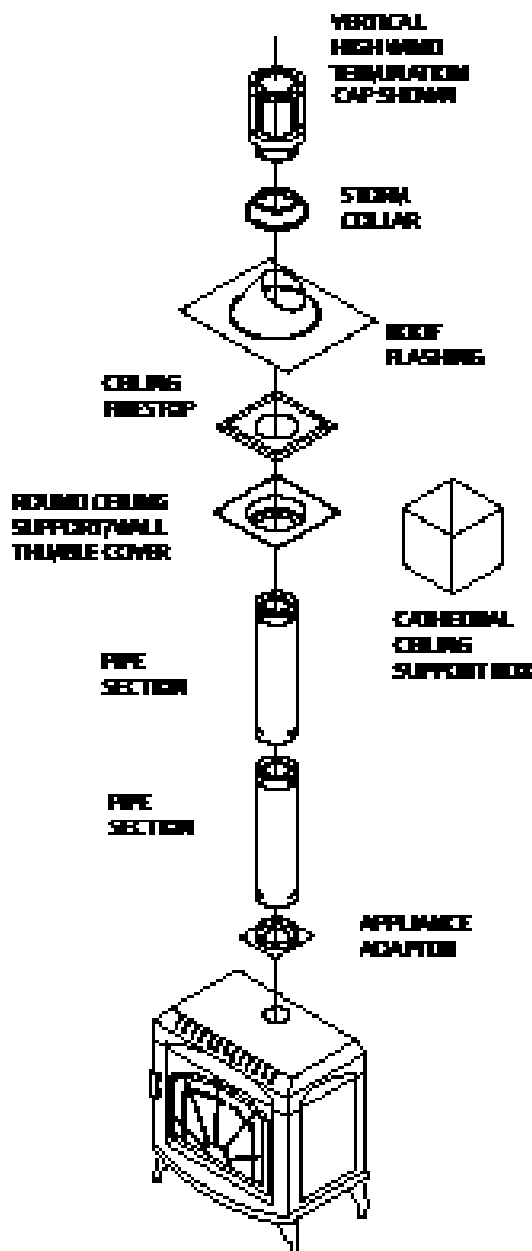

Figure 3
- Vertical Termination (Fig. 3)